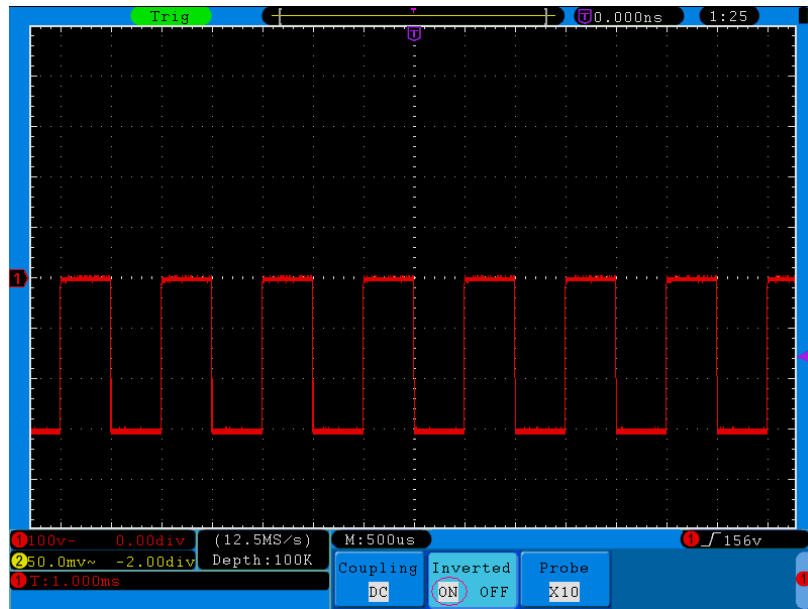

Figure 4-6 Inverted Waveform
- (1) Press the **CH1 MENU** button to show the **CH1 SETUP** menu.
- (2) Press the **H2** menu selection button and select **ON** for **Inverted** item. The waveform is inverted as it is shown in *Figure 4-6*.